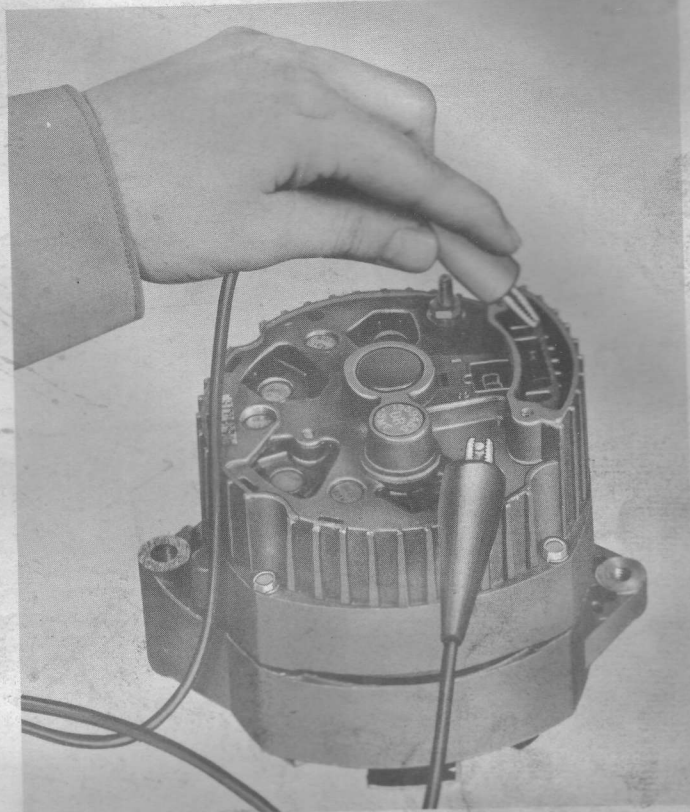

Figure 8 — Field Connections for Delco-Remy Integral Circuit Alternator.
4. On **Delcotron** integral circuit alternators having a ground terminal, attach the black field lead to the ground terminal and the red field lead to the regulator heat sink as shown in figure 8. On some later model Delcotrons without the ground terminal, a small hole